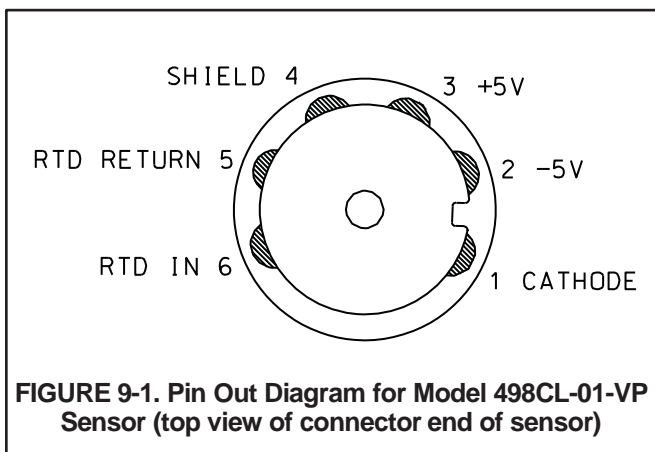

FIGURE 9-1. Pin Out Diagram for Model 498CL-01-VP Sensor (top view of connector end of sensor)
3. Disconnect the sensor from the cable and use an ohmmeter to check the resistance across the RTD. See Figures 9-1 and 9-2. At room temperature it should be about 110Ω. If the resistance is very high, the RTD has failed and the sensor must be replaced. If the resistance is okay, connect the Variopol cable to the sensor and disconnect the three RTD wires at the transmitter. Measure the resistance across the RTD leads, which are red and white. See Figure 9.4. If the resistance is very high, the problem is with the VP cable, and it must be replaced.
2. Disconnect the sensor from the cable and use an ohmmeter to check the resistance across the RTD. See Figures 9-1 and 9-2. The resistance should be about 110 Ω . If there is an open or short circuit, the sensor has failed and should be replaced. If the resistance is acceptable, attach the sensor to the Variopol cable and disconnect the RTD IN and RTD RTN leads at the transmitter. Connect an ohmmeter across the leads and measure the resistance. If the circuit is open or shorted, the cable must be replaced.